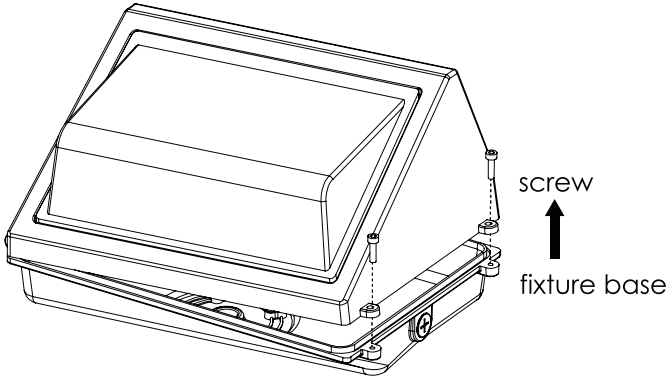

figure 1
**Step 1** Open the cover by unscrewing the screws that are located on the side of the wall pack, then separate the male and female connectors. (figure 1)